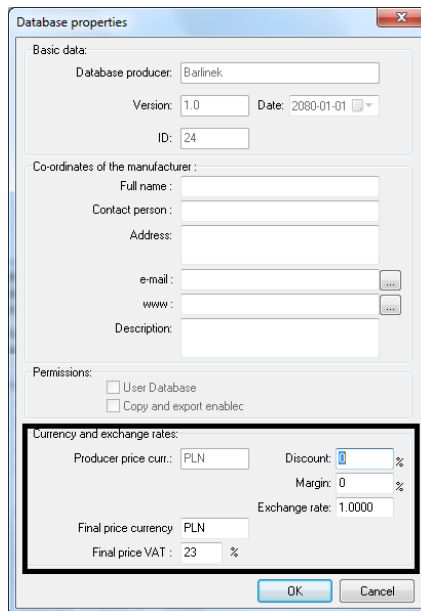

Fig. 381 – currency and exchange rate settings section
- **Currency and exchange rate settings** – opens the **Database properties** dialog in which it is possible to change the currency of a producer's price and of a final price, as well as set the currency rate accordingly to the current rate and modify discount, margin and VAT values for prices in the whole database (Fig. 381), both the User Database and a producer's one.